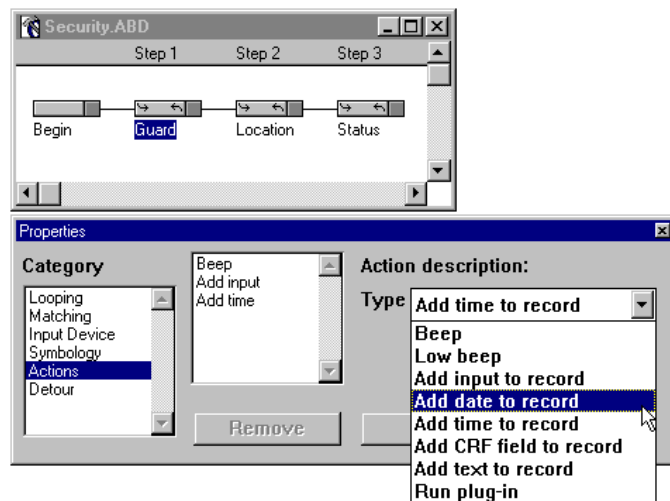

Figure 3-27 Actions Property - Add Date to Record
24. Select **Add date to record** from the **Action description** pop-up menu (Figure 3-27).